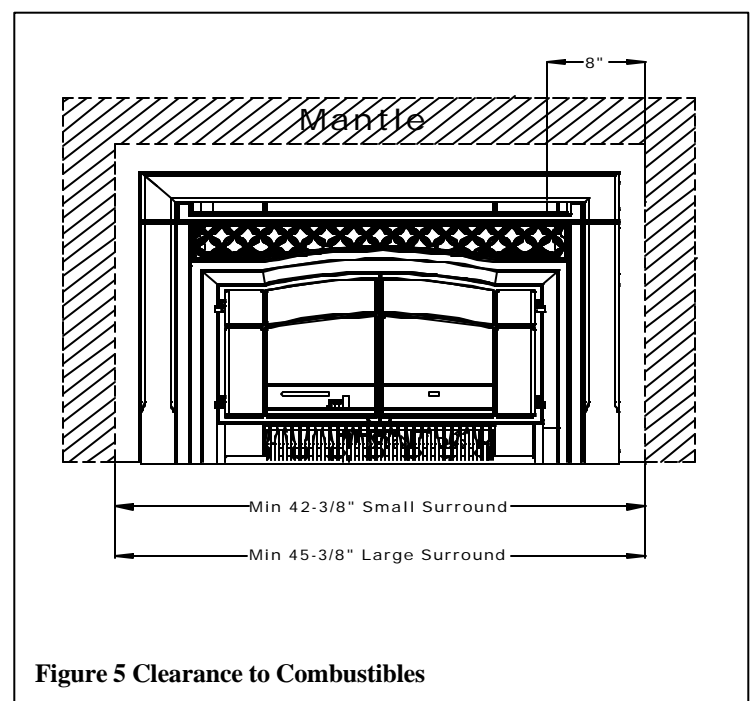

Figure 5 Clearance to Combustibles
- Ⓟ Repeat this process to the top outer edge of both the intake and exhaust collars on the back of the unit. The exhaust adaptor is the collar nearest the center of the unit, the intake adaptor collar is on the right side of the stove (refer to Figure 1, on page 5 & Figure 5 on page 8). Install the restrictor if necessary (refer to Figure 3 on page 7). Slide a hose clamp over the ends of both flexible vent pipes. Place the flexible vent pipe marked "intake" onto the intake collar, place the flexible vent pipe marked "exhaust" onto the exhaust collar. Secure them to the collar adaptors by tightening the hose clamps with a slotted screwdriver or 5/16" nut driver.